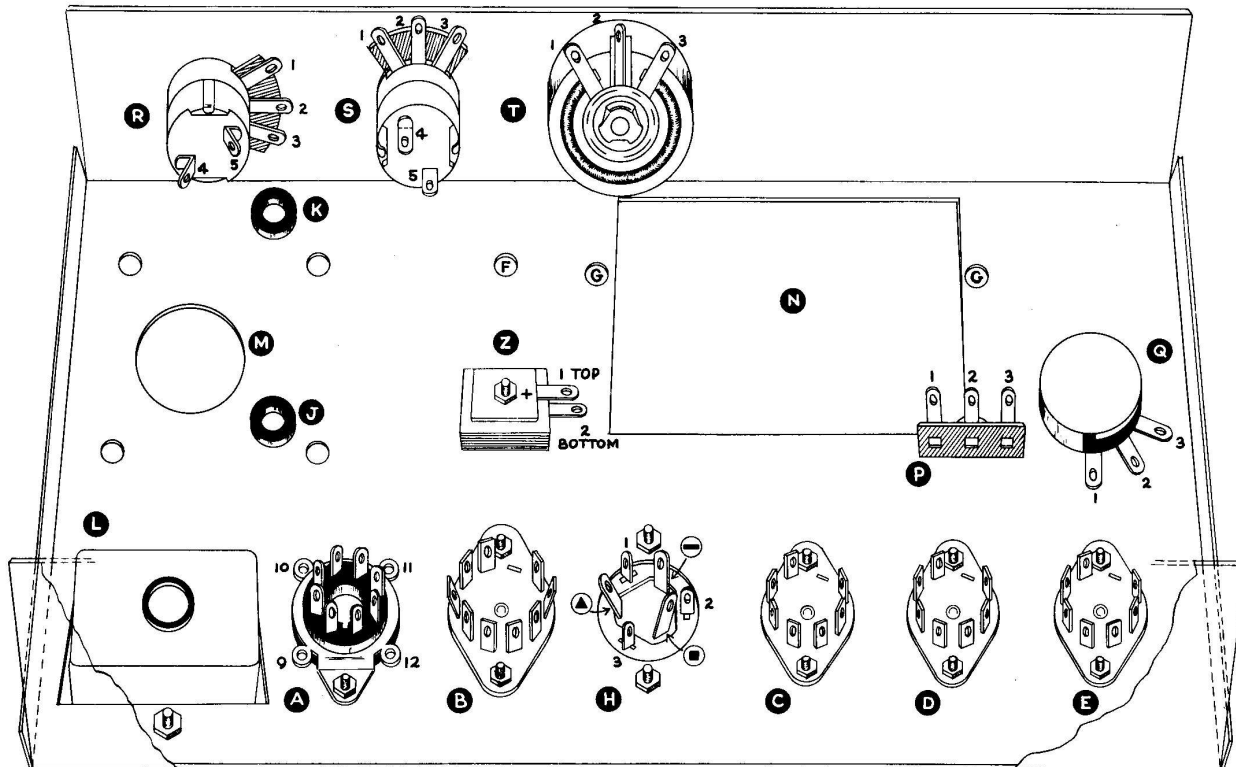
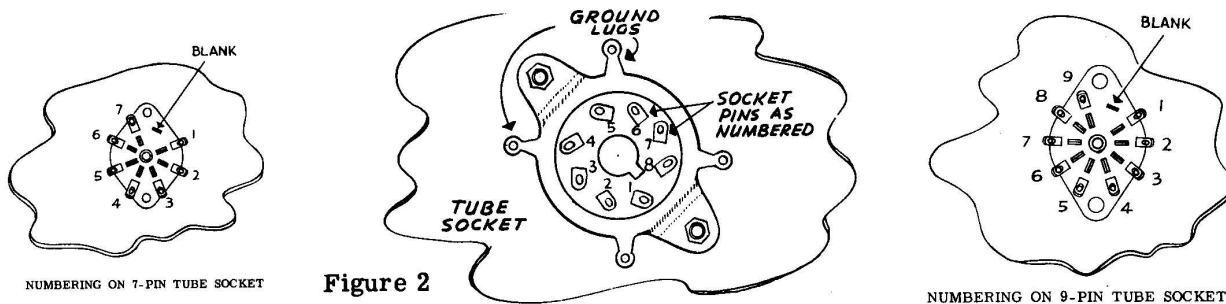
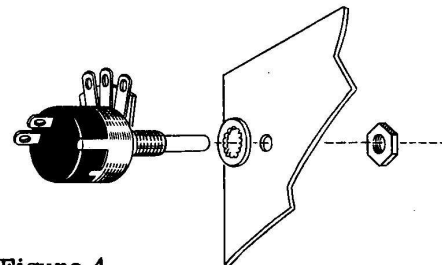

Figure 1
Figure 2
Figure 4
- ( ) Place the chassis upside down on the bench. Note that one apron of the chassis has five identical holes symmetrically located in it. Place this side away from you. The chassis will then be oriented correctly with the bottom chassis diagram, Figure 1.
- ( ) Refer to Figure 2 and note that the contacts on the tube sockets are numbered consecutively in clockwise sequence when viewed from the bottom of the socket. Mount an octal socket in hole A, locating the keyway as shown in Figure 1. Use 6-32 hardware, place lockwashers under the nuts and tighten securely.
- ( ) Mount the flat condenser mounting wafer on top of the chassis at location H. Check Figure 1 to make sure that the three tab holes are properly oriented. Use 6-32 hardware with lockwashers under the nuts.
- ( ) Temporarily mount a 200  $\Omega$  potentiometer with switch at location R as shown in Figure 1. Use a lockwasher between the control and the chassis apron. See Figure 4.